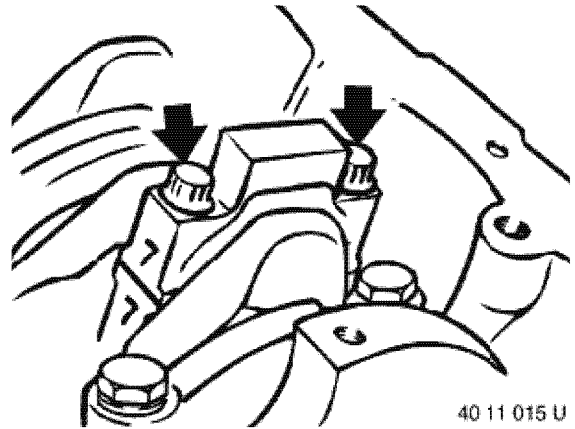

Figure 5-47
7. Remove the connecting rod cap bolts (**Figure 5-47**).